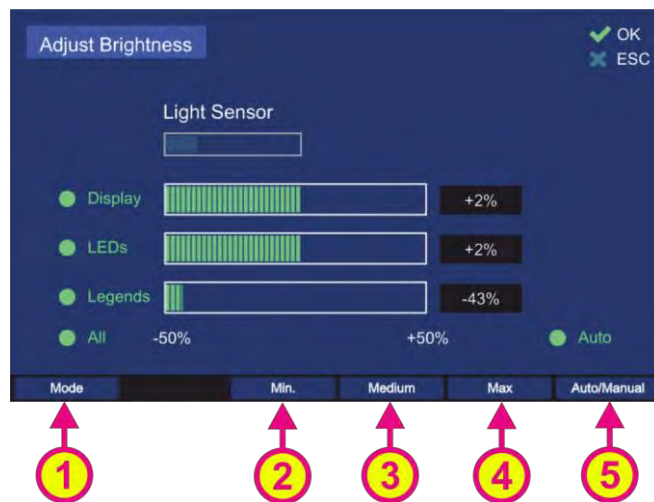

Figure 147 "Adjust Brightness Dialog"
- Use hotkey “Mode” (s. Figure 147, number 1) to select between:
- Use the hotkey “Min.” (s. Figure 147, position 2), “Medium” (s. Figure 147, position 3) and “Max.” (s. Figure 147, position 4) in order to set the appropriate luminosity.
- Use the hotkey “Auto/Manual” (s. Figure 147, position 5) in order to set auto or manual luminosity adjustment mode.